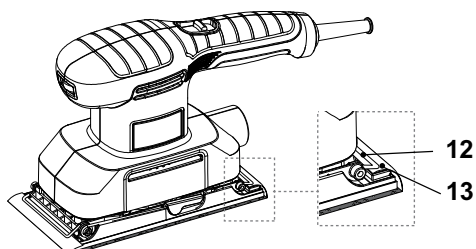

Fig. 7
- > Tighten the sanding paper (13) and fix the other end with the second clamp bar (12) (Fig. 7).